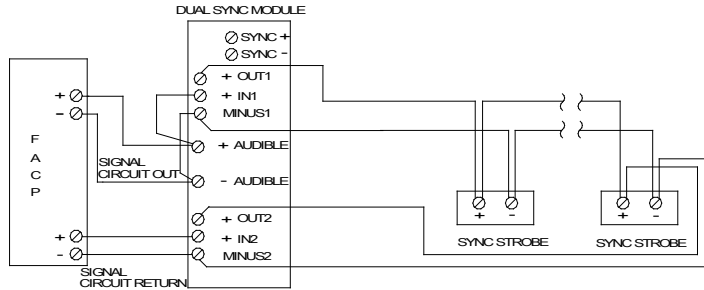

Figure 9: Wiring Diagram Sync Strobes (Red and Black Shunt Wires are supplied with DSM)
2. Strip leads 3/8 inches for connection to screw terminals. Break all in-out wire runs on supervised circuits to assure integrity of circuit supervision as shown in Figure 9.